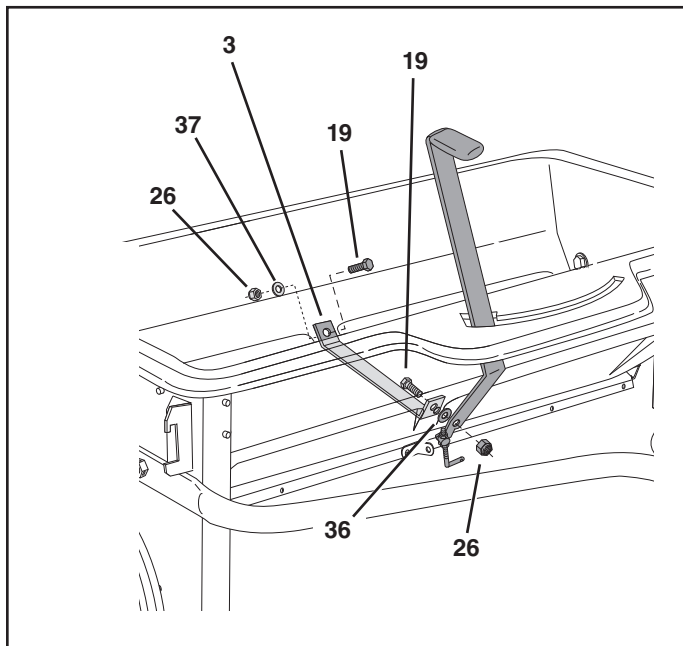

FIGURE 9
- Place the flow control lever (2) into the slot in the hopper. See figure 9.
- Place the center brace (3) into the hopper. Insert a 1/4" x 1" hex bolt (19) through the center brace and the front of the hopper. Assemble a nylon washer (36), the flow control lever and a 1/4" nylock hex nut (26) onto the bolt. **Do not tighten yet.** See figure 9.
- Insert the other 1/4" x 1" hex bolt (19) through the center brace and the rear of the hopper. Assemble a 1/4" flat washer (37) and 1/4" nylock hex nut (26) onto the bolt. **Tighten** both the front and rear bolts. See figure 9.